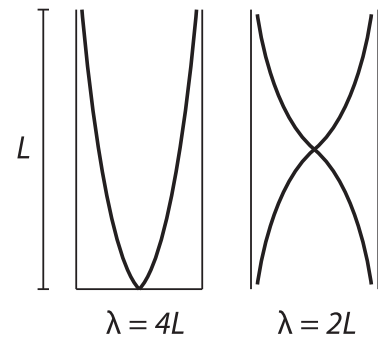

Fig. 6 Resonance in closed and open pipes
13. **You have just determined $\frac{1}{4}$ of a wavelength for a sound that has a frequency of 256 Hz (see Fig. 6).**